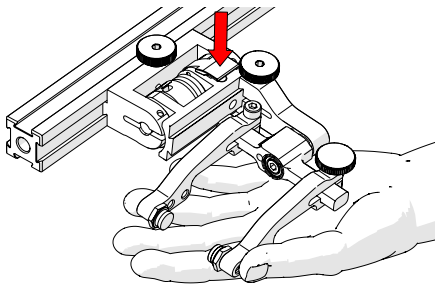

Fig. 55 - Lift slightly and press Latch
2. Lift the probe holder slightly and press the latch button (Fig. 55) to release the probe holder to the full 45° degrees.